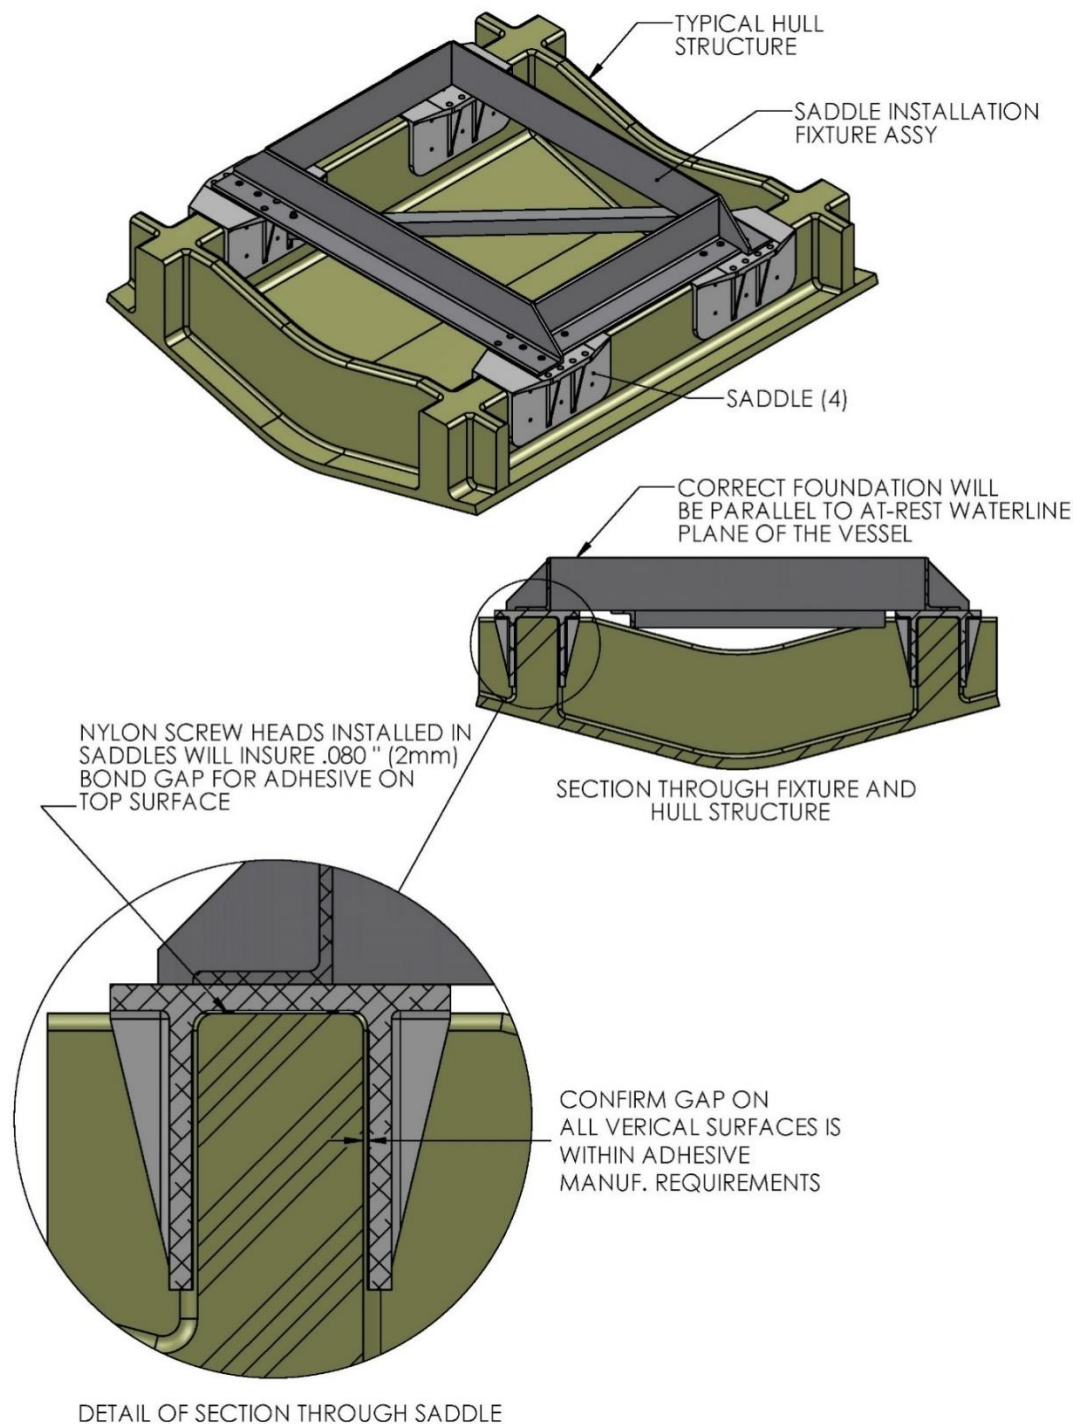

FIGURE 9 – SADDLE INSTALLATION FIXTURE ON NOTIONAL HULL STRUCTURE
- 6) Lower fixture and saddles over the hull structure and apply light downward pressure to each of the four saddles until the four nylon screws rest on the hull structure (SEE FIG. 9). The adhesive will be forced towards the forward and aft ends of each saddle and partially down the sides of the foundation beams